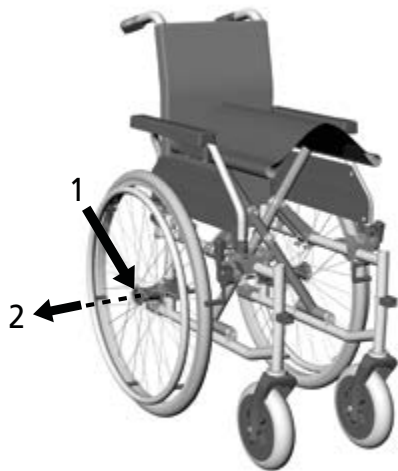

Fig.15
1. Use your thumb to press the lock button of the quick-release axle in the centre of the wheel hub (1, Fig. 15).
3. Pull the rear wheel with the quick-release axle out of the axle holder (2, Fig. 15).